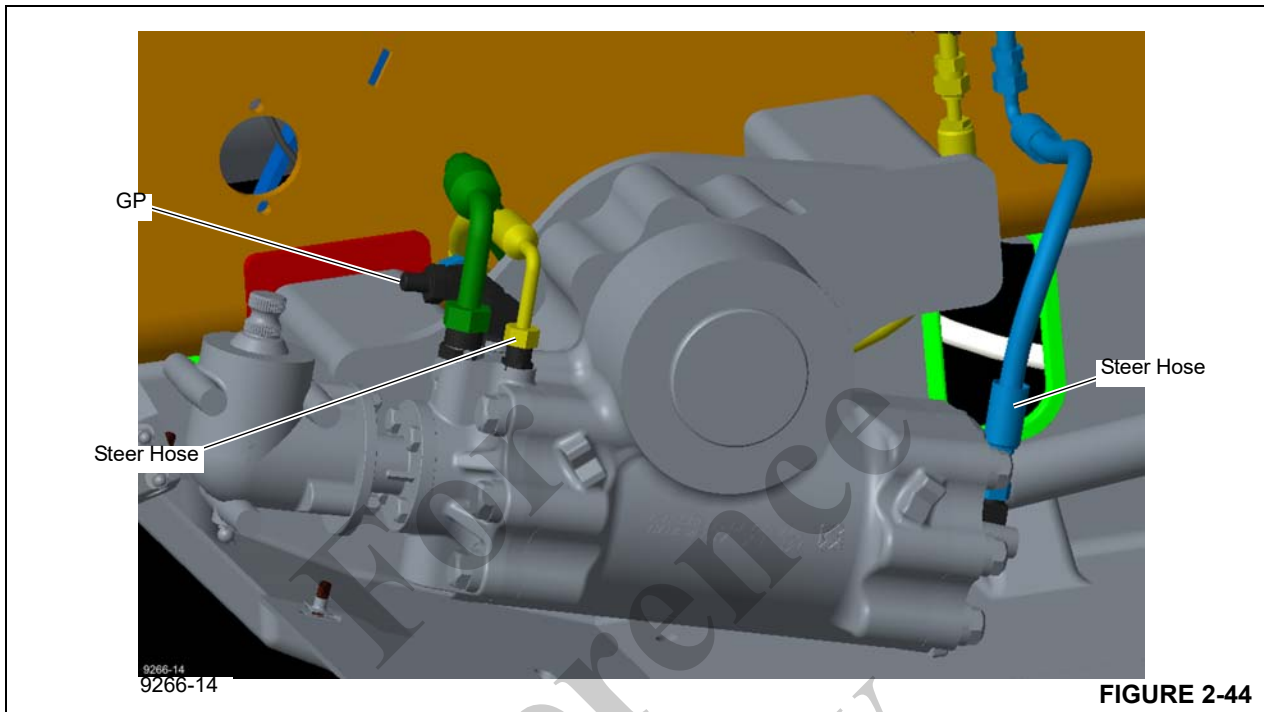

FIGURE 2-44
nipple at the GP port of the power steering gear box. (see Figure 2-44)
2. Disconnect and plug one steer hose and cap the fitting. (see Figure 2-44)